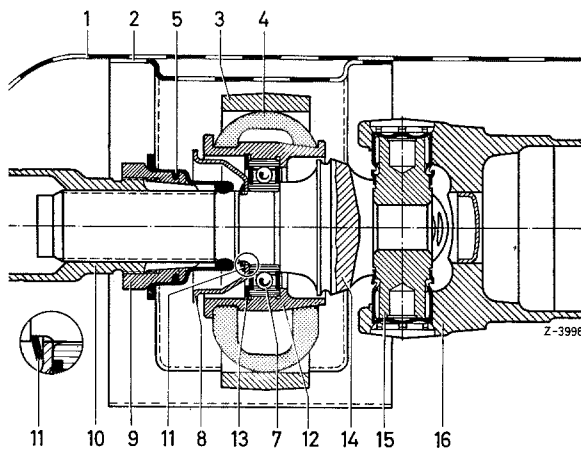

Fig. 41-2/1
- 1 Mark front universal shaft or intermediate shaft (10) after loosening clamping nut (9) and then pull off, (refer to Job No. 41-1, note following item 8).
- 2 Remove bearing bracket (3), rubber mount (4), rubber sleeve (5), locking ring (11) and protective cap (8) (Fig. 41-2/1).